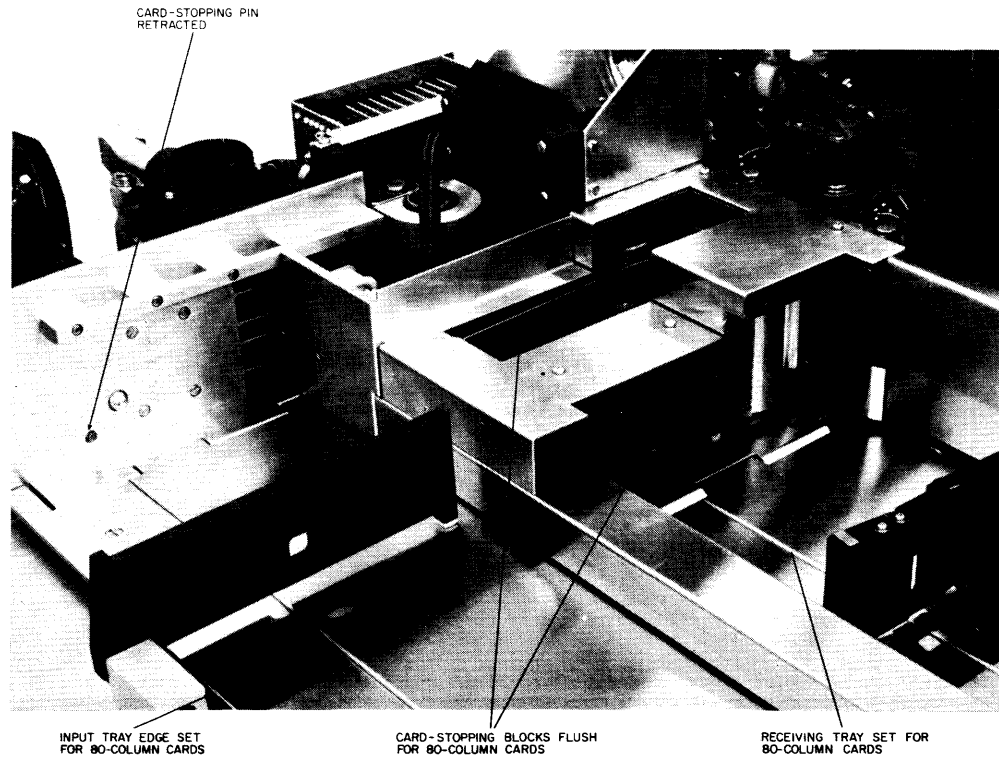
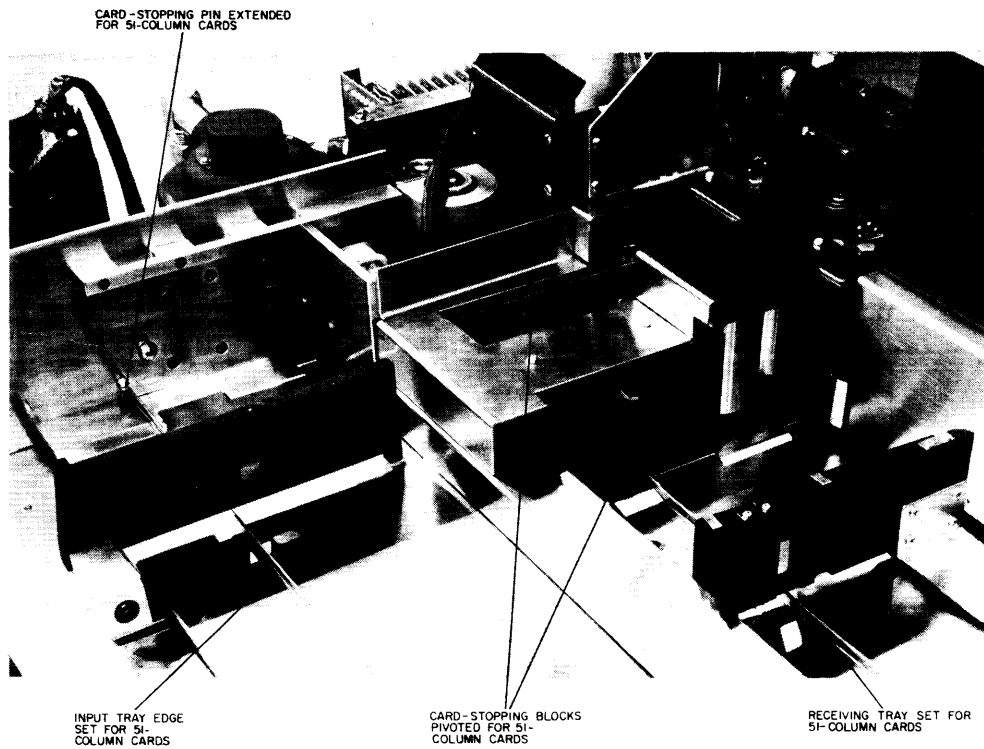

Figure 2. Card Trays Set for 80-Column Cards
Figure 3. Card Trays Set for 51-Column Cards
- 3) Check input wall of secondary and main receiving trays if 80-column (long) cards are used. Hinged card-stopping blocks should be positioned so that a flush surface is formed at each input wall (Figure 2). The hinged block assemblies must be pivoted to protrude from the wall surfaces of each receiving tray if 51-column (short) cards are to be used (Figure 3).
- 4) At input tray, set card-stopping pin to protrude from the face plate if short cards **are** to be used; turn pin clockwise to form flush wall if long cards are being **used** (Figures 2 and 3).